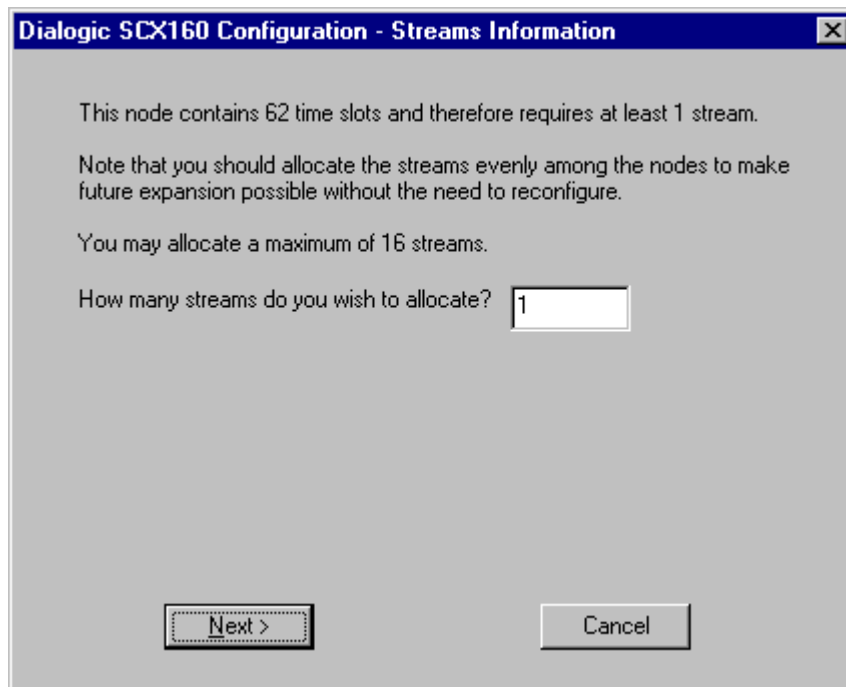

Figure 47. Streams Information Window
13. *Figure 47. Streams Information Window* displays and prompts the user to enter the number of data streams required to support the time slots used by the currently installed boards.